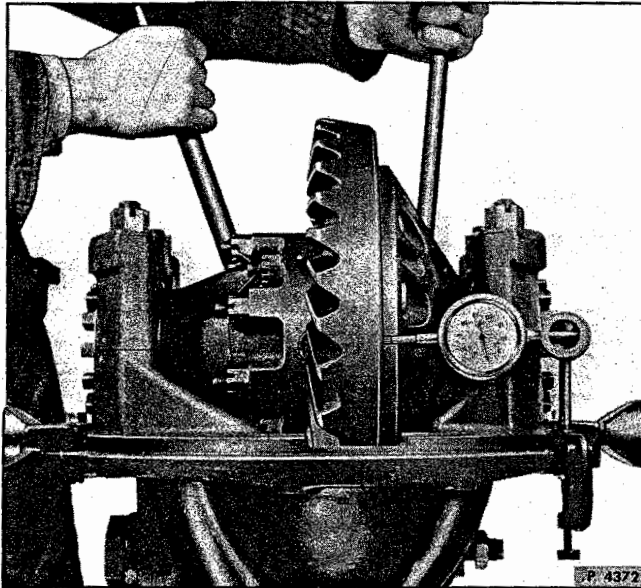

Figure 8—Differential Bearing Pre-Load Adjustment
1. Using dial indicator at back face of drive gear (1) as shown in figure 8, loosen bearing adjusting ring (8), on flanged side, enough to notice end play on dial indicator.
3. Tighten adjusting rings (8) one notch each from 0.000" end play position to impose correct preload on differential side bearings.